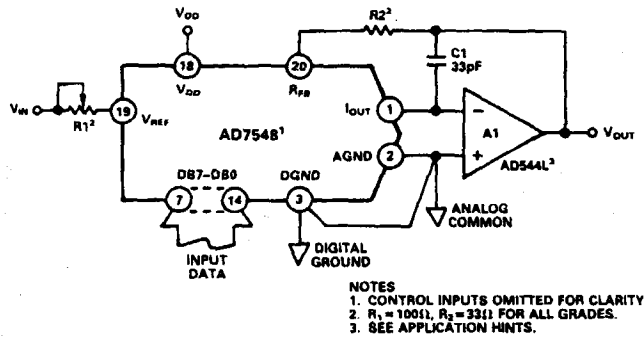
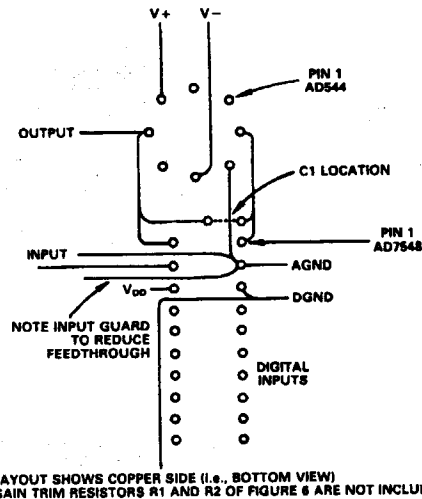

Figure 6. Unipolar Binary Operation
Figure 9. Suggested Layout for AD7548 and Op Amp
The contents of the DAC register can be overridden by pulling  $DF/\overline{DOR}$  (pin 5) LOW. The CTRL (pin 6) input then determines whether the DAC register data is overridden by all 0s (CTRL LOW) or all 1s (CTRL HIGH). This feature allows the user to calibrate the AD7548 in-circuits such as Figure 6 without calling on the microprocessor to load calibration data.
Figure 6 shows the analog circuit connections required for unipolar binary operation. With a dc input voltage or current (positive or negative polarity) applied at pin 19, the circuit is a unipolar D/A converter. With an ac input voltage the circuit provides 2-quadrant multiplication (digitally controlled attenuation).
Table I shows the code relationship for the circuit of Figure 6. For full scale trimming the DAC register is loaded with 1111 1111 1111. This is most easily accomplished by using the data override function. R1 is then adjusted for  $V_{OUT} = -V_{IN}$  (4095/4096). Alternatively full scale can be adjusted by omitting R1 and trimming the reference voltage magnitude.
Table I. Unipolar Binary Code Table for Circuit of Figure 6
**Output Offset:** CMOS D/A converters in circuits such as Figures 6 and 7 exhibit a code dependent output resistance which in turn cause a code dependent amplifier noise gain. The effect is a code dependent differential nonlinearity term at the amplifier output which, depends on  $V_{OS}$  where  $V_{OS}$  is the amplifier input offset voltage. To maintain monotonic operation it is recommended that  $V_{OS}$  be no greater than  $(25 \times 10^{-6})(V_{REF})$  over the temperature range of operation. Suitable op amps are AD517L and AD544L. The AD517L is best suited for fixed reference applications with low bandwidth requirements: it has extremely low offset ( $50\mu V$ ) and in most applications will not require an offset trim. The AD544L has a much wider bandwidth and higher slew rate and is recommended for multiplying and other applications requiring fast settling. An offset trim on the AD544L may be necessary in some circuits.
**Feedthrough:** The dynamic performance of the AD7548 will depend upon the gain and phase stability of the output amplifier, together with the optimum choice of PC board layout and decoupling components. A suggested printed circuit layout for Figure 6 is shown in Figure 9 which minimizes feedthrough from  $V_{REF}$  to the output in multiplying applications.